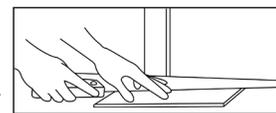

Figure 7
- Undercut door casings and jambs. Remove any existing base, shoe mold or doorway thresholds. These items can be replaced after installation. All door casings and jambs should be undercut to avoid difficult scab cuts (Figure 7).